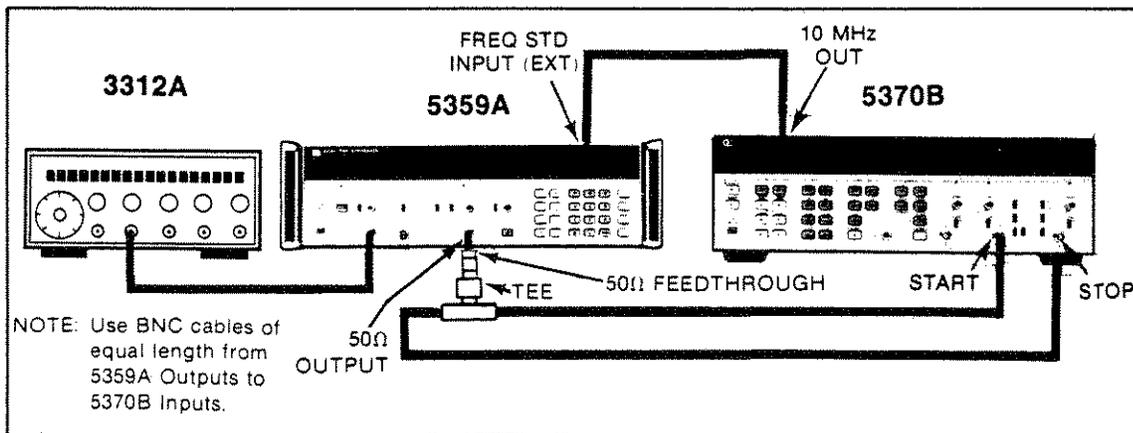

Figure 4-3. Setup for WIDTH Performance Test
4. Connect the 3312A, 5359A and 5370B as shown in Figure 4-3.
d. Connect the 5359A and 5370B as shown in *Figure 4-3*.